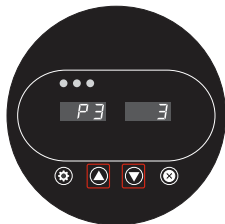

Fig. 15
- Press the up  and down  buttons to select the timer you need, including 1,2 and 3, and the control panel will also show the light quantity as per the timer you set (Fig.15).